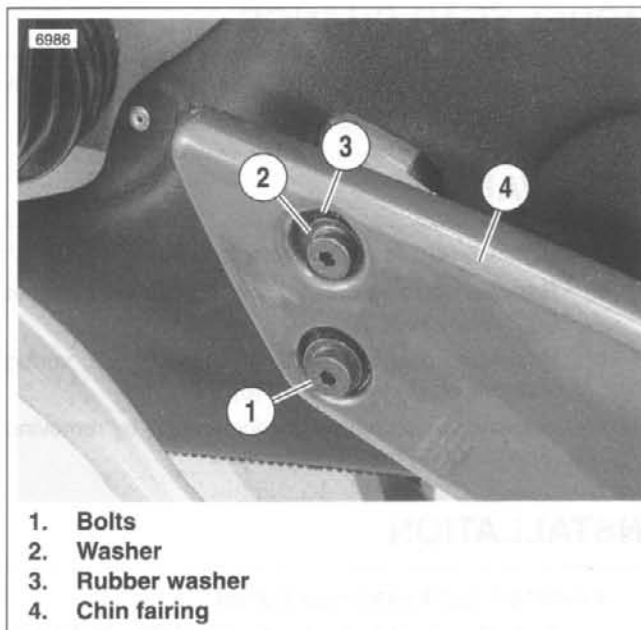
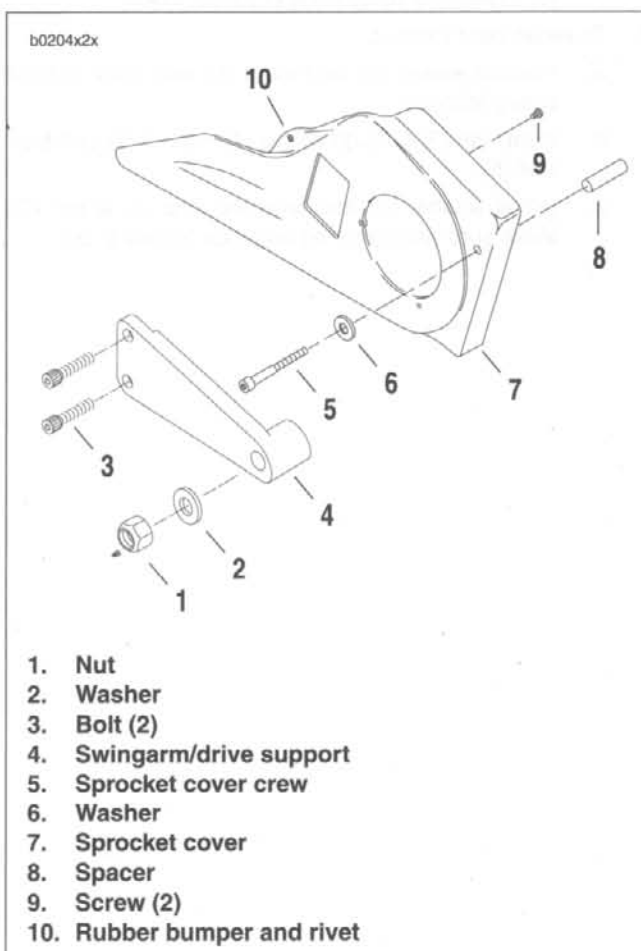

Figure 2-149. Chin Fairing, Right Side
Figure 2-150. Sprocket Cover
1. See Figure 2-149. Remove two bolts (1), washers (2) and rubber washers (3).
2. See Figure 2-150. Remove nut (1) and washer (2).
3. Remove sprocket cover screw (5), washer (6) and spacer (8).
4. Remove swingarm drive/support (4) and sprocket cover (7) as an assembly.
5. Remove two screws (9) to separate sprocket cover from swingarm/drive support. Do not remove rivet holding rubber bumper (10).
1. See Figure 2-150. If removed, attach sprocket cover to swingarm/drive support.
- b. Apply LOCTITE THREADLOCKER 222 (purple) to both screws (9).
2. Apply LOCTITE THREADLOCKER 243 (blue) to screw (5). Install sprocket cover assembly with screw (5), washer (6) and spacer (8). Tighten to 4-6 ft-lbs (5.4-8.6 Nm).
3. See Figure 2-149. Apply LOCTITE THREADLOCKER 272 (red) to bolts (1). Place metal washer over screw and then install rubber washer. Install and tighten to 9-10 ft-lbs (12.2-13.6 Nm).
4. Install nut (1) and washer (2). Tighten to 30-35 ft-lbs (40.7-47.4 Nm).